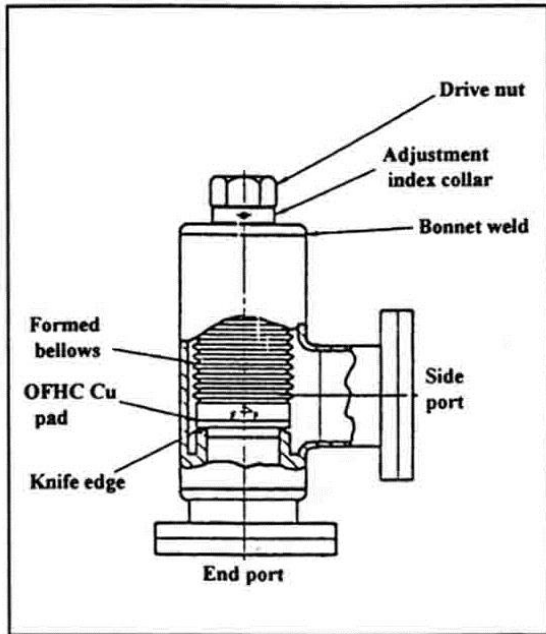
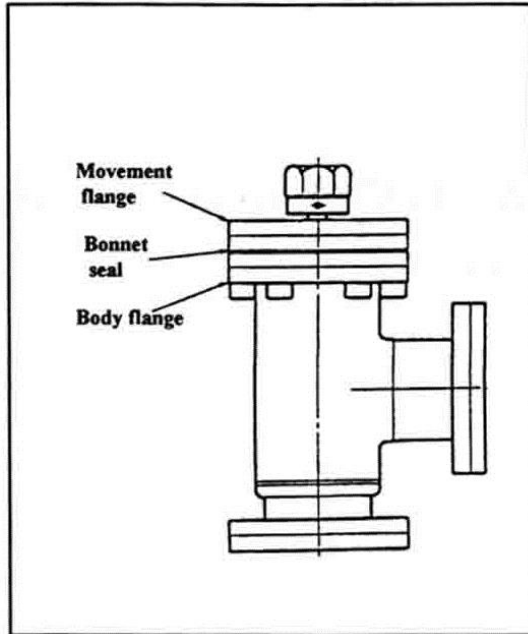
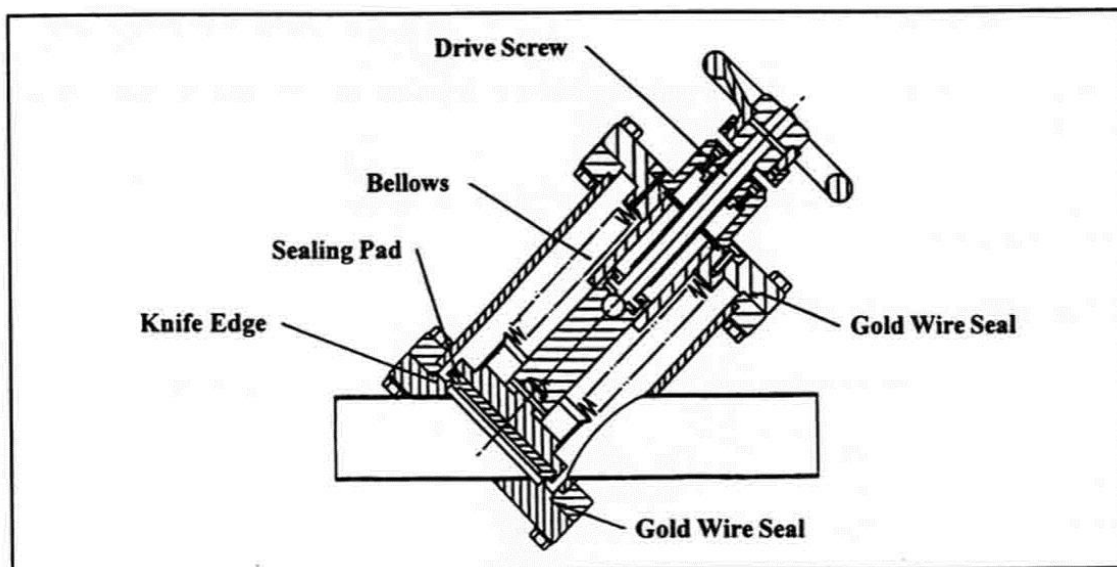

Figure 1 - Welded bonnet valve
Figure 2 - Demountable bonnet valve
Figure 3 - The CSD32 in-line all metal valve
CR, CRD and CSD ranges of all-metal valves use a sealing technique based on the deformation of a copper pad against a knife edge. This method of sealing has been shown to provide a consistent UHV seal for many thousands of operating cycles. The CR series are right-angle valves with welded bonnet seals (see figure 1). The CRD series are right-angled valves with demountable bonnet seals (see figure 2). The CR(D) series are available in three sizes - CR,(D)20, 40 and 60 (corresponding approximately to the valve port diameters in millimeters). The CSD32 is a line-of-sight valve with a clear bore of 32mm (see figure 3). Both flanged and tabulated (unflanged) versions of all valves are available.
The scaling pads on CSD valves can only be replaced by demounting the valve body and exactly the same procedure as for CRD valves should be followed (see section 2.2). The sealing pad is secured by set screws in the periphery of the backing plate. Refer to figure 3.